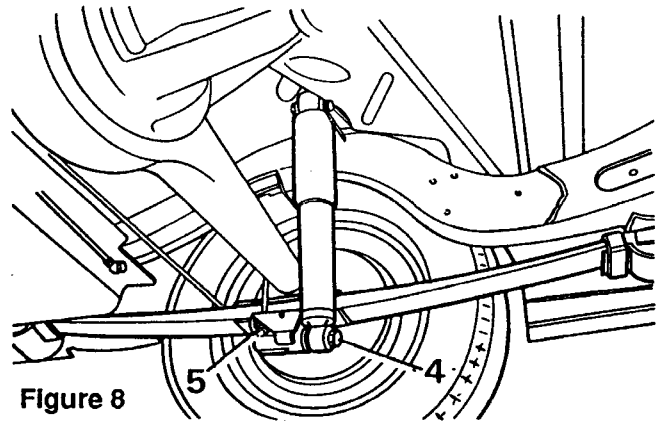

Figure 8
4. Remove lower shock absorber bolt, see figure 8.